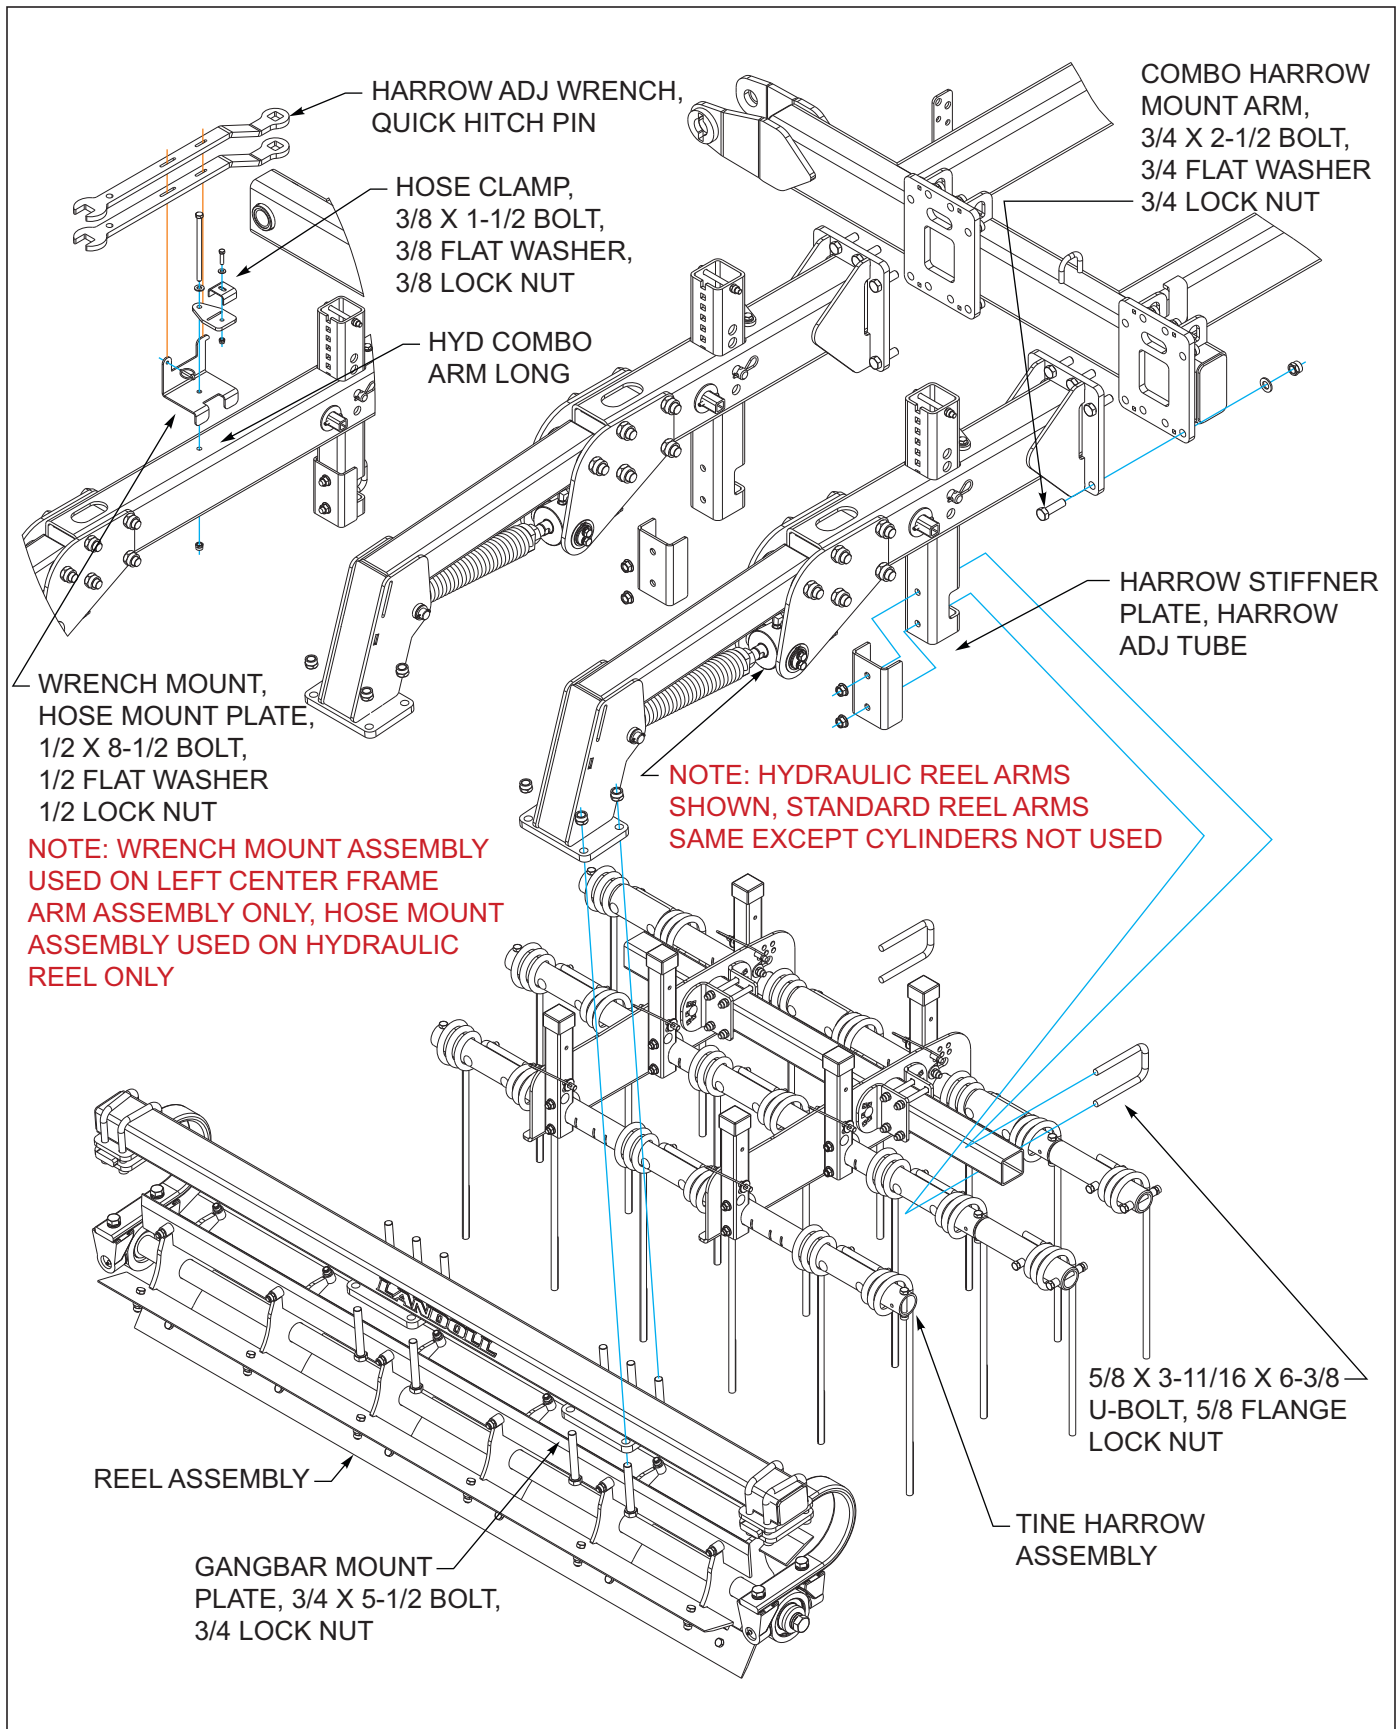

Figure 3-26: Standard or Hydraulic 3BCT/Chopper Installation (Option)
1. Attach the combo harrow mount arm long assemblies on rear of center frame and short arm assemblies to plates on rear of wing frames with 3/4 x 2-1/2 bolts, 3/4 flat washers, 3/4 lock nuts See Figures 3-26.
3. Attach the harrow tine assemblies, secure with the u-bolts, harrow stiffner plates, nuts that were just removed as shown See Figures 3-26
5. Attach the reel assemblies, secure with the gangbar mount plates, 3/4 x 5-1/2 bolts, 3/4 lock nuts, that were just removed as shown See Figures 3-26.